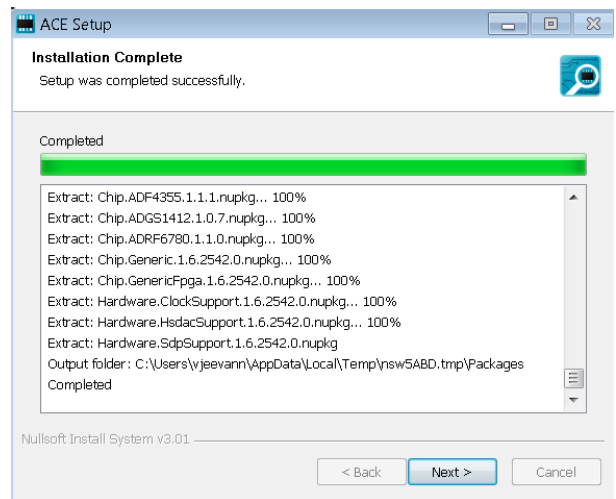

Figure 9. Installation Complete
- When the installation is complete, click **Next >**, and then click **Finish** to complete the installation process (see Figure 9).